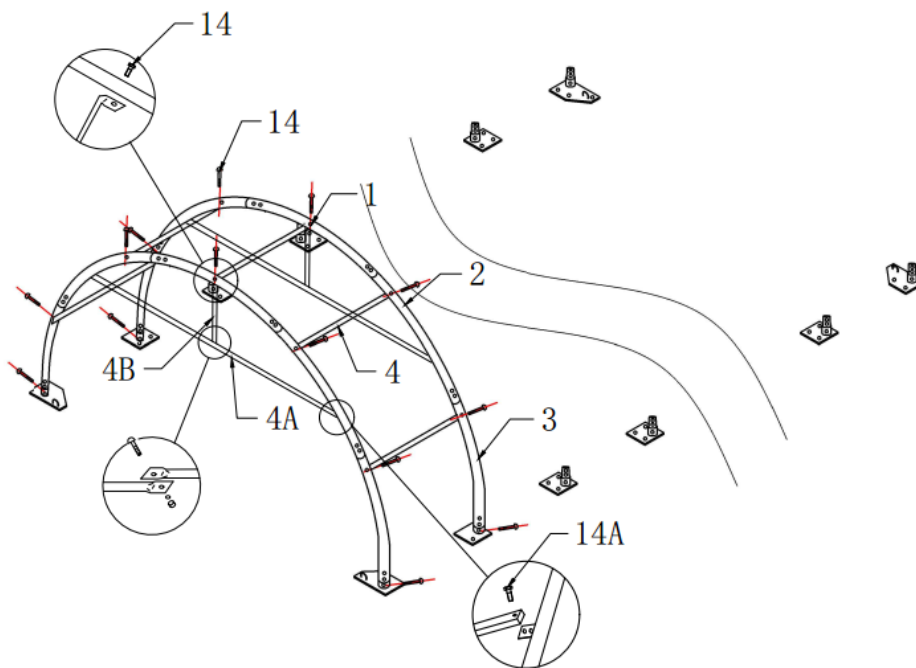

Figure 4
3.2 As Figure 4 shown to fix Roof Support Tube (No.6A) by using Bolt M10x20mm (No.15) if your products is the PLUS model.